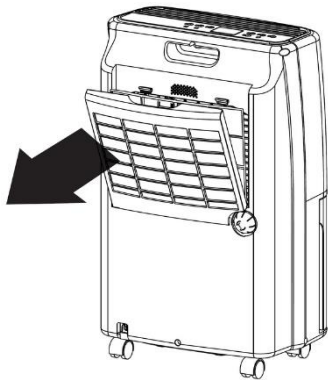

Fig. 1
- Grasp the top edge of the air filter and pull it toward you to remove the air filter from its holder. (See Figure 1)